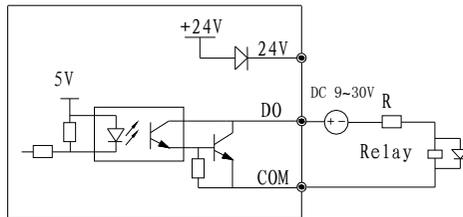

Fig. 2-13 On-off output connection mode 2 of multi-function output terminals
2) Multi-function output terminals DO as discrete output can also use the external, 9~30V, power supply and the wiring method is shown in Figure 2-13